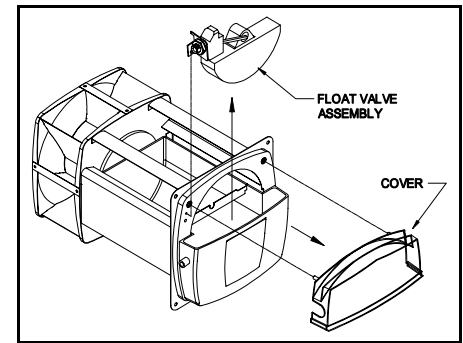

Figure 3
2. Disassemble humidifier: Pull off cover. Remove bagged float valve assembly. Remove pan by lifting up and out. (See Figures 3 & 4)